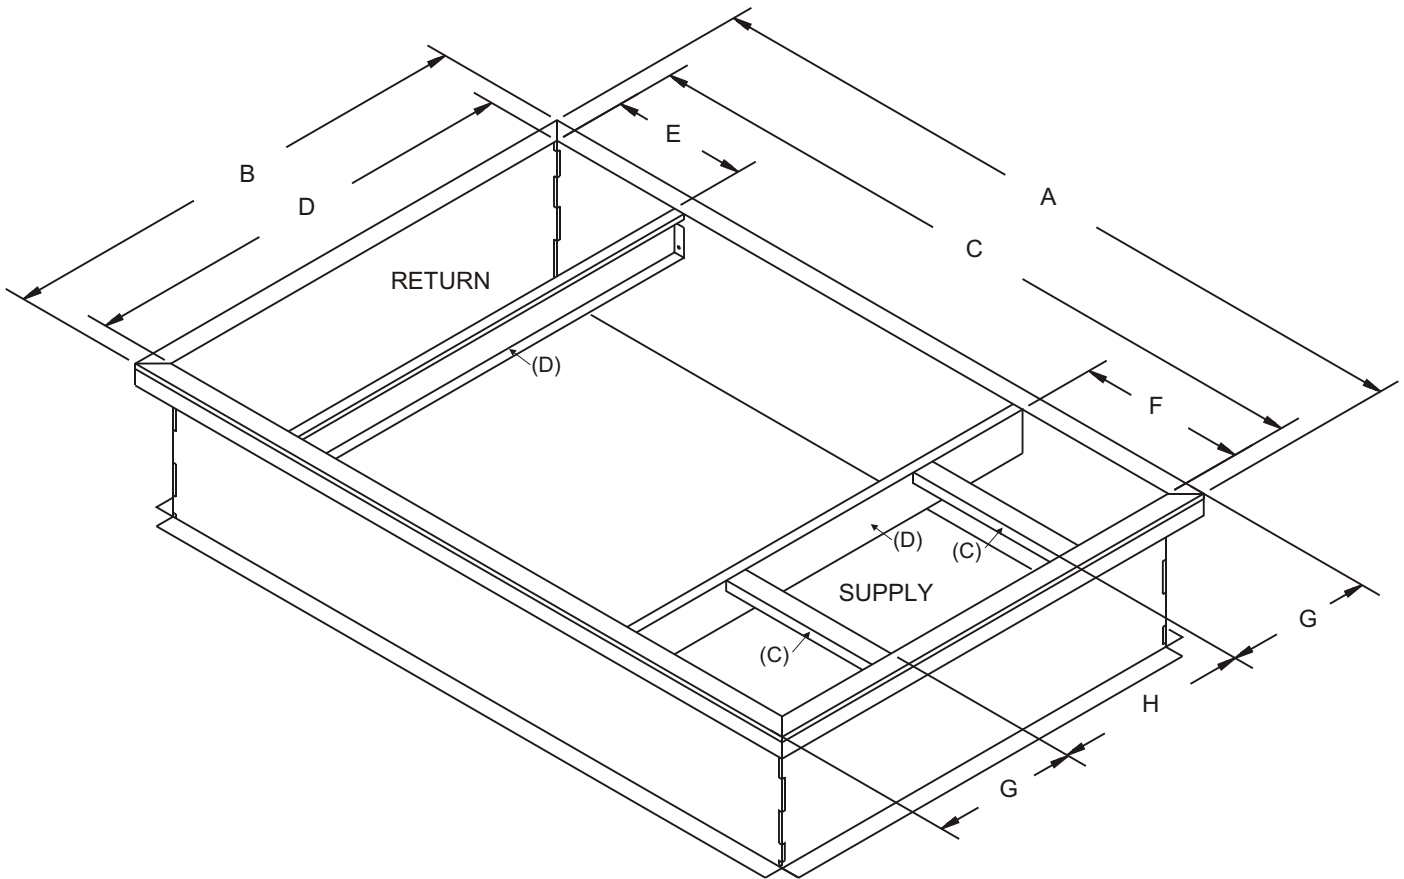

Figure 6
Install the vertical duct supports (D) as shown in Figure 6 with opening over the desired duct location.
Install the horizontal duct supports (C) as shown in Figure 6.